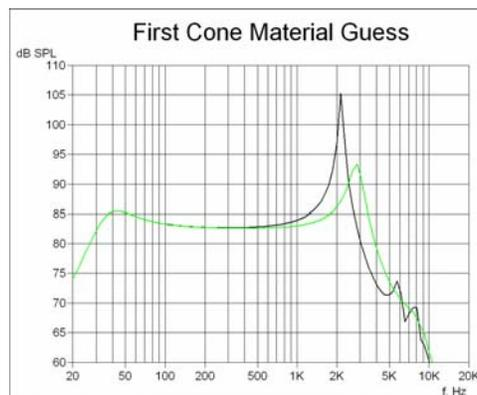

Figure 8 - 1st guess. Peak too low in freq (green is measured response)
- Make a first guess of the E-modulus or Young's Modulus by using a comparable material, see fig. 8. It is a good idea to model the driver without (excluding) dust cap first.